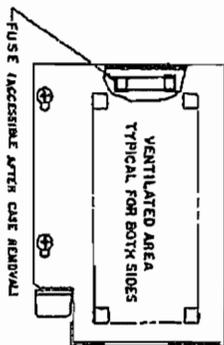

FIG. 1-2 MECHANICAL OUTLINE DRAWING.
- a) Refer to "Mechanical Outline Drawing," FIG. 1-2